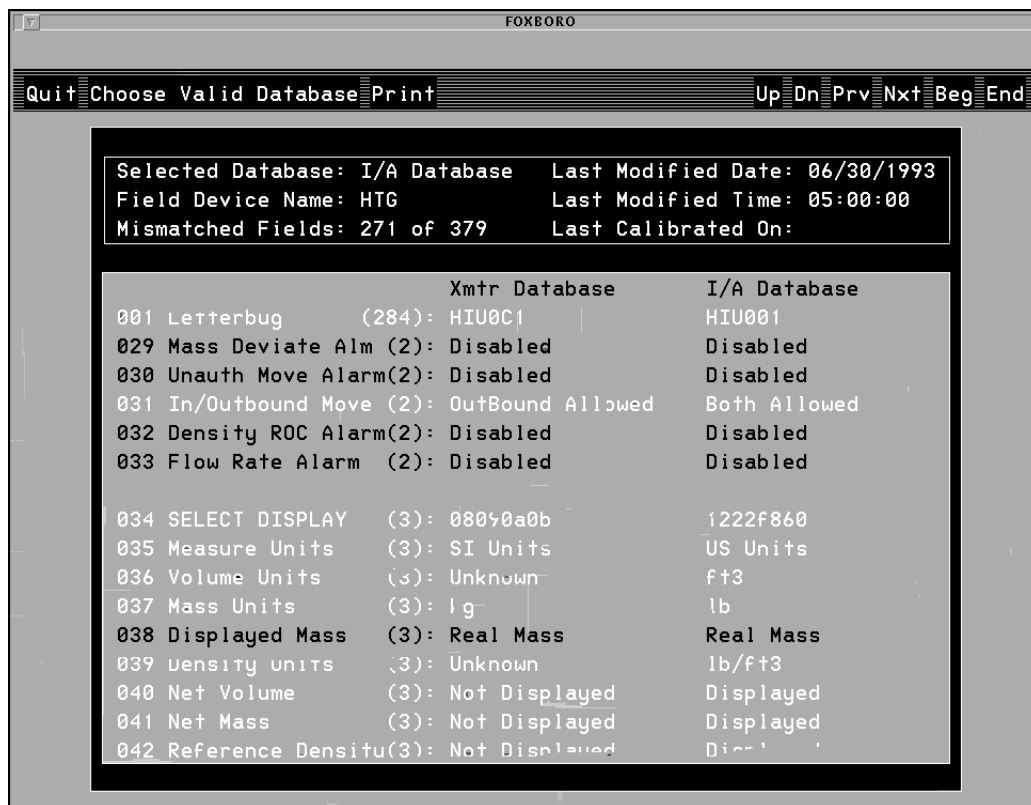

Figure 3. Example of Compare Screen
- the comparison of parameters from both the I/A Series configuration file and the HTG database. See Figure 3 for an example of the database compare screen.